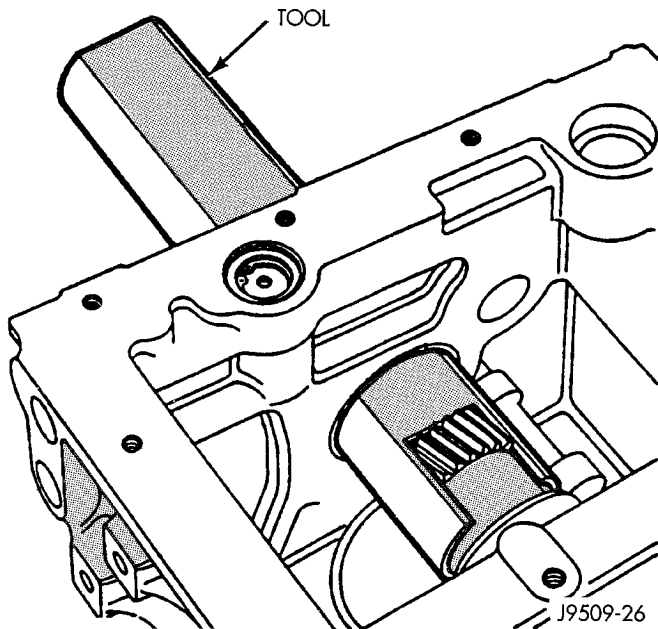

Fig. 54 Crankshaft Special Tool VM-1004
(17) Install special tool VM-1004 onto crankshaft over gear (Fig. 54).